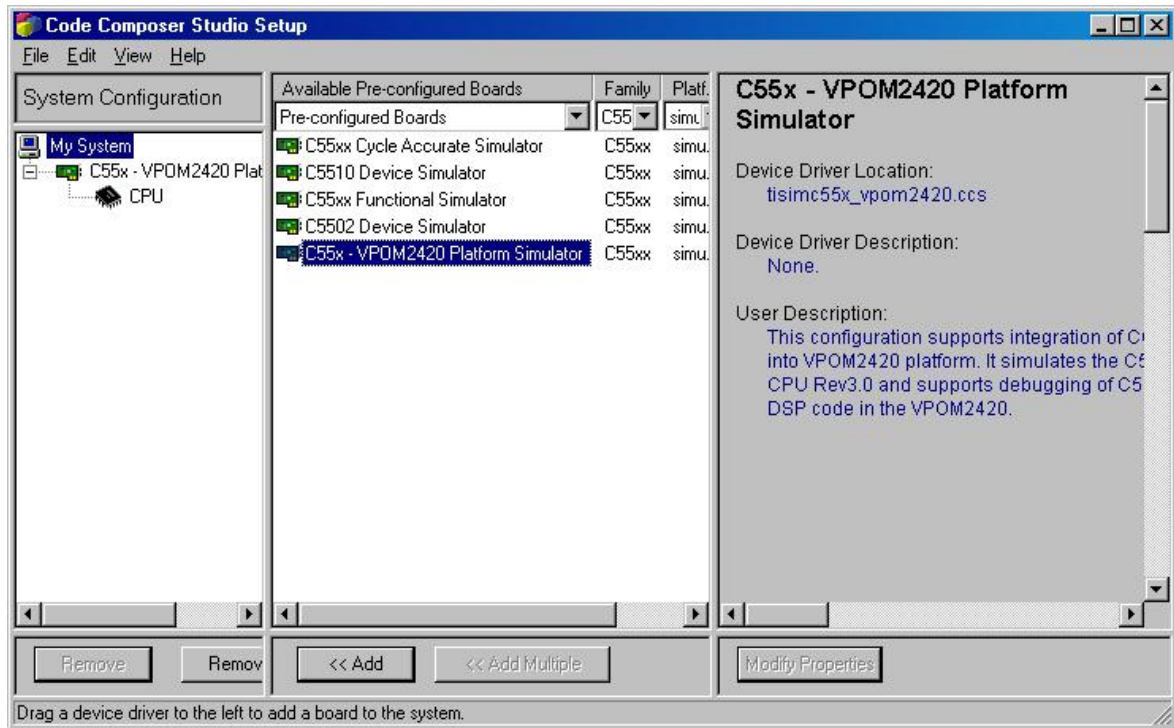

Figure 1. CCSetup Import Configuration for VPOM2420 C55x Simulator
2. From the middle pane of CCSetup, select the Pre-configured Board option. Select the C55xx family and simulator platform. Select the configuration, C55x-VPOM2420 Platform simulator from the Available Pre-configured Boards column and add it to the system. Finally, save the selection. Figure 1 shows a screenshot of the setup after importing the configuration.